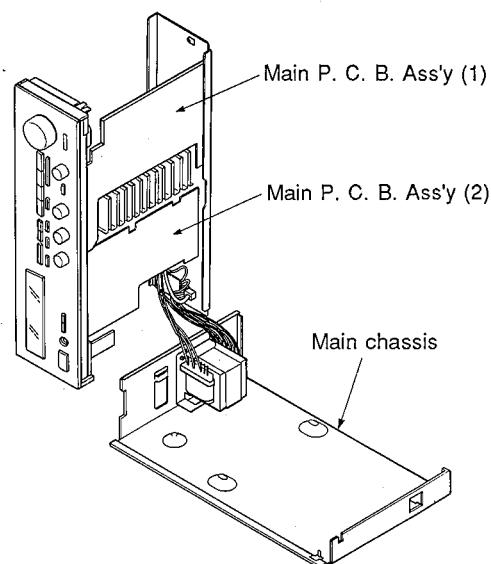

Fig. 2
- Remove the Main Chassis as shown in Fig. 2. In this condition it is possible for you to check the Main P. C. B. Ass'y, and replace the parts.